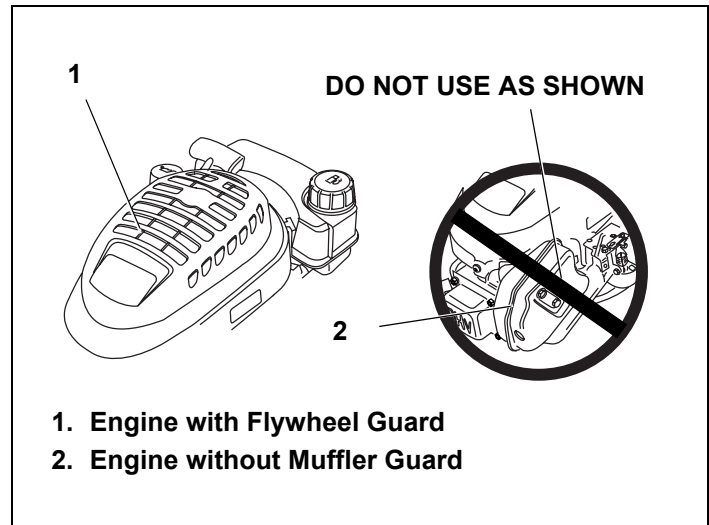

Figure 1. Typical Muffler and Flywheel Guard Locations
NEVER operate the engine with an unguarded flywheel and/or muffler. See Figure 1 on page 2.
The equipment manufacturer may attach a sprocket and chain or pulley and belt to the engine shaft. If these parts are NOT properly guarded, or if you are NOT sure whether they are properly guarded, DO NOT use your engine; contact the equipment manufacturer. Hands, feet, hair, jewelry, clothing, etc. can become entangled in rotating parts, leading to serious injury or death. To avoid serious injury or death, be sure the flywheel guard is in place. See Figure 1 on page 2.
- To avoid severe burns on contact, NEVER operate the engine without the muffler guard in place, and avoid hot areas of the engine. See Figure 1.